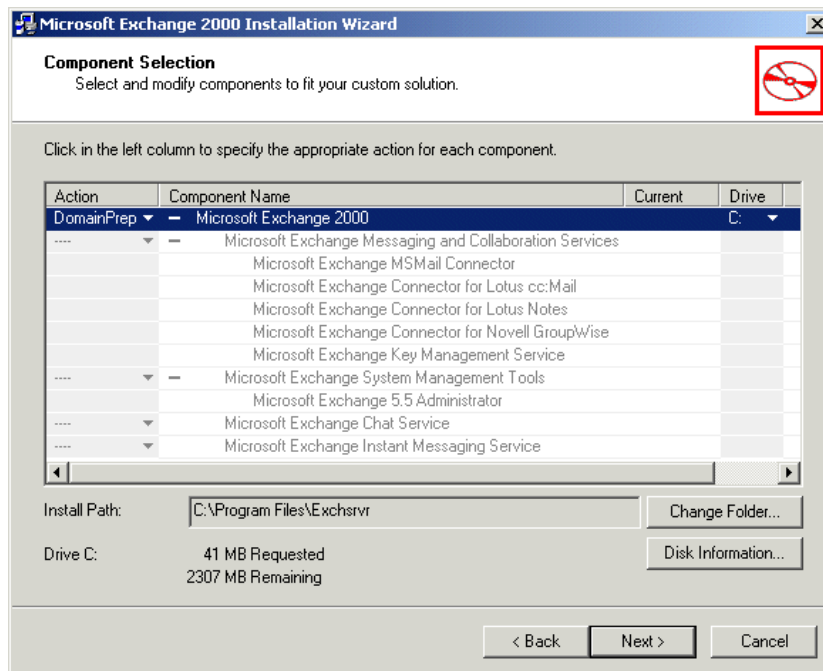

Figure 4-2 Running DomainPrep
4. Enter the license key and click **Next**. You will see a window similar to Figure 4-2.